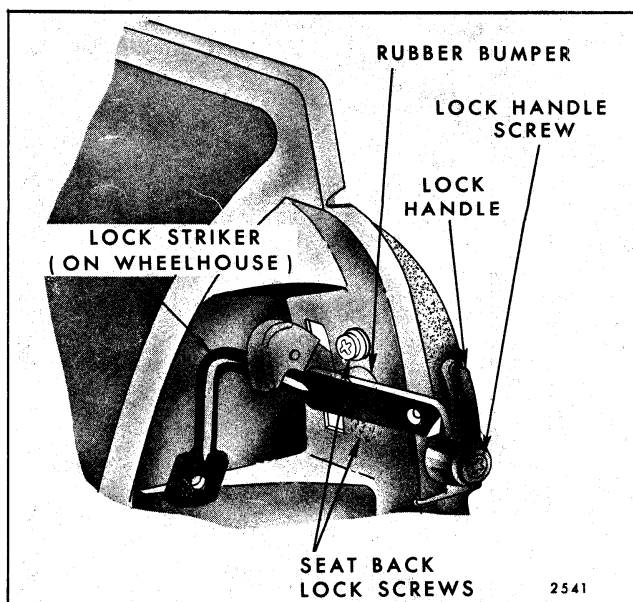

Fig. 9-95-Folding Second Seat Back Lock and Striker - All "A and B" Station Wagons
4. To install seat back lock assembly, reverse removal procedure. A small amount of lock adjustment is available to obtain proper engagement of lock bolt with lock striker on wheelhouse as shown in Figure 9-95.